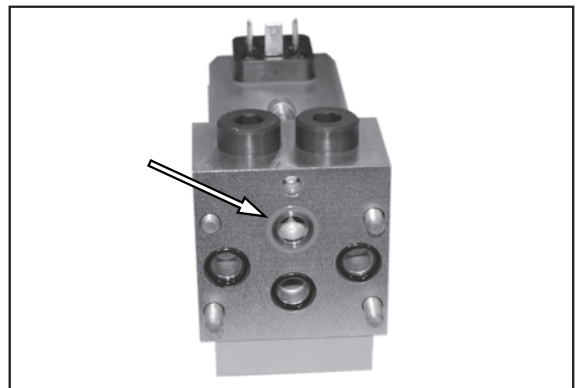

Figure 44.
3. See Figure 44. Remove the 2-position/4-way valve. Clean and inspect the o-rings. Replace as necessary.